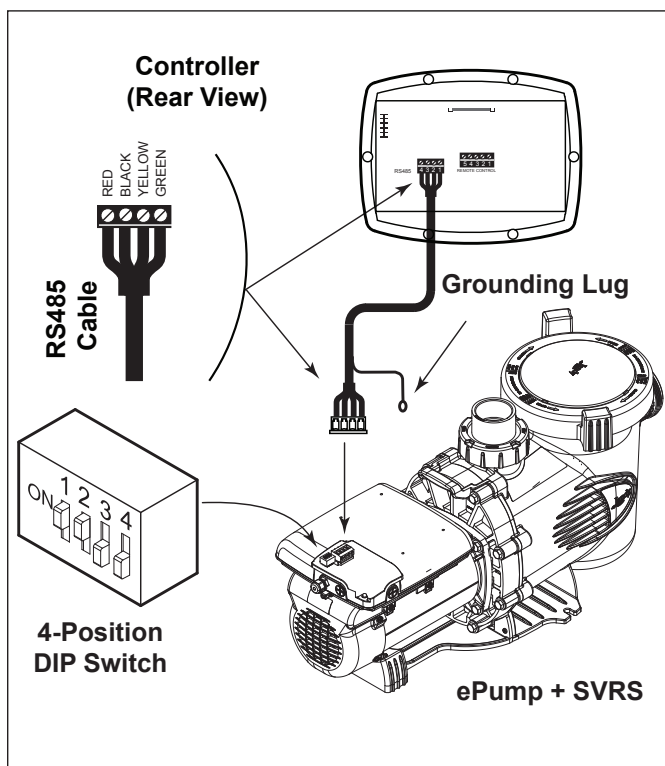

Figure 4. Wiring ePump + SVRS Controller (JEP-R) to ePump
- Attach the four (4) wires in the RS-485 cable to the RS-485 connector. Match the wire colors with the positions on the connector: 1- red, 2- black, 3- yellow, and 4- green. See Figure 4.
- Slide dip switches 1 and 2 up, so they are in the ON position, and slide switches 3 and 4 down, so they are in the OFF position. See Figures 4.
As shown in Figures 4 and 5, the 4-position dip switch is located at the rear of the ePump + SVRS. This dip switch serves two (2) functions: it selects the pump address, and it determines what type of controller will be used with the pump. The tables below show the dip switch settings.